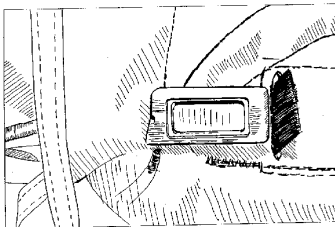

Figure 13
- 2.7 A 1" (25mm) slit must be made in the reserve riser cover at the top end of the spandex channel to route the control unit to the pocket. Fig. 13